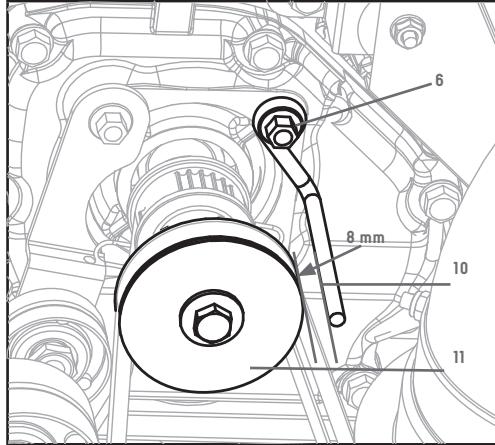

Figure 25
9. Once the belt is replaced, tighten the 20 mm bolt (6), ensuring the clearance between the belt lever (10) and the pulley (11) is 5/16" (8 mm) (Fig. 25).